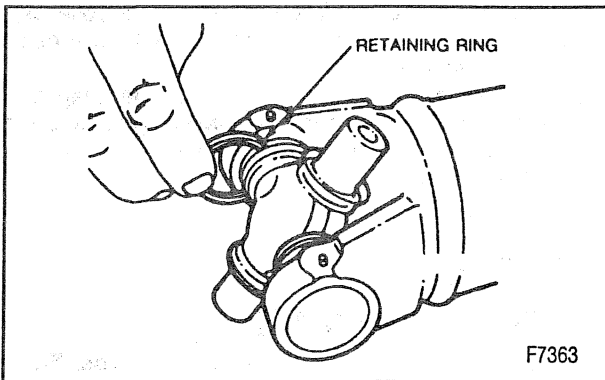

Figure 18—Installing Retaining Ring
4. Bearing retainer in the retainer groove (figure 18).